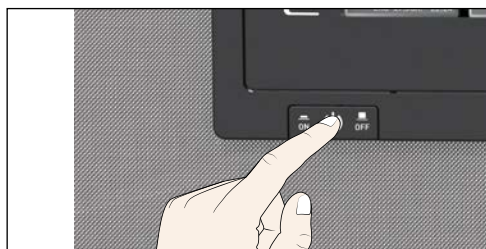

Fig. 19 Switch off appliance
3. Switch off the appliance Fig. 19).